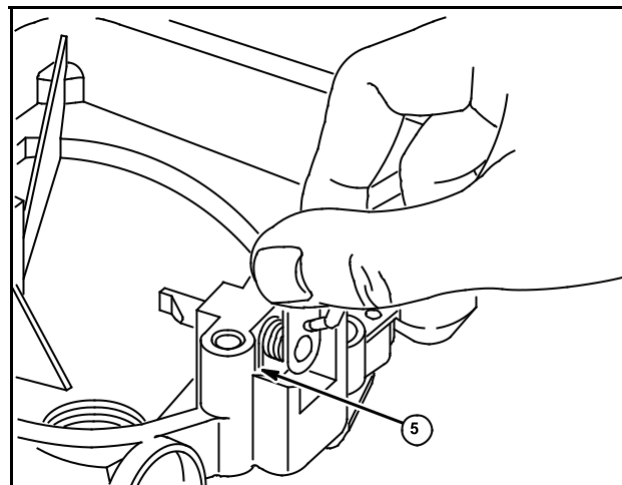

Fig. 63
7. Install "E" ring. Leg of spring (5) may need to be pushed against sump, Fig. 63.